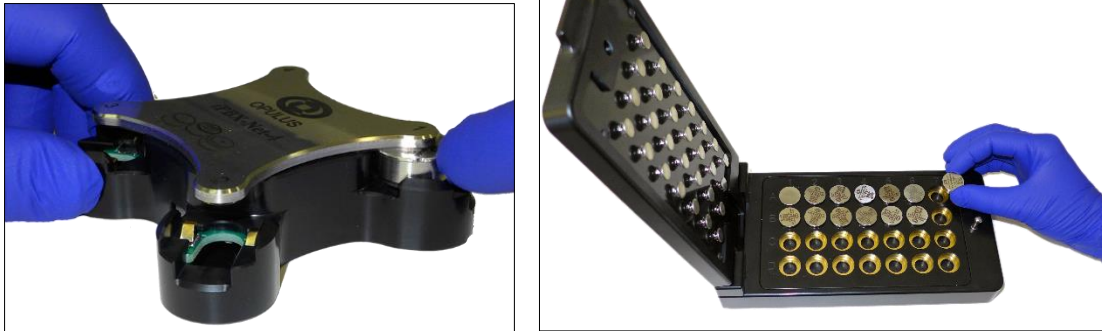

Figure 5
2. Verify that the cable is securely fastened, then place the PyroButton(s) into the receptor(s) (*Figure 5*).